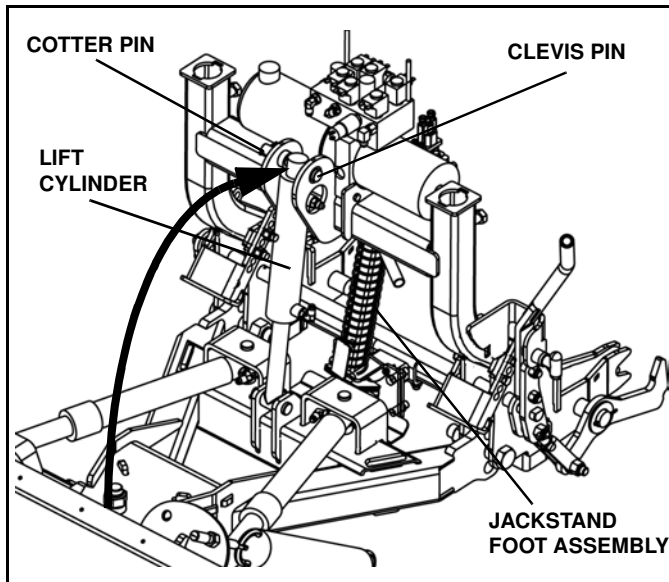

Figure 1-13
13. Flip lift cylinder up and secure to the light bar frame with a 3/4" clevis pin (p/n 98100441) and cotter pin (p/n 98009085). (See Figure 1-13).